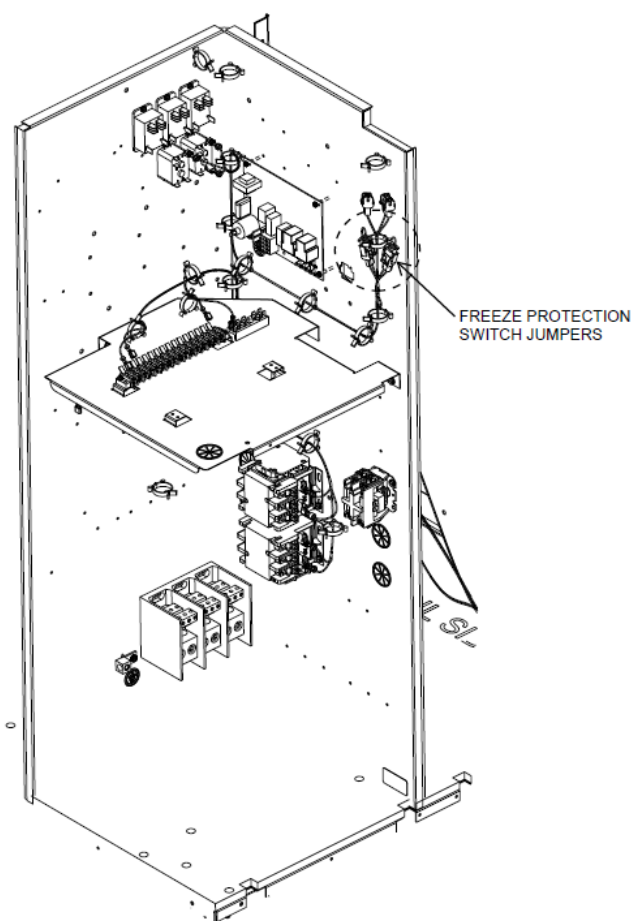

FIGURE 3
3. Locate the Freeze Protection Switch jumper(s) on the side of the Control box (as shown in Figure 3). Freeze Protection Switch 1 (FPS1) with the yellow jumper is associated for Circuit 1 and Freeze Protection Switch 2 (FPS2) with purple jumper is for Circuit 2.